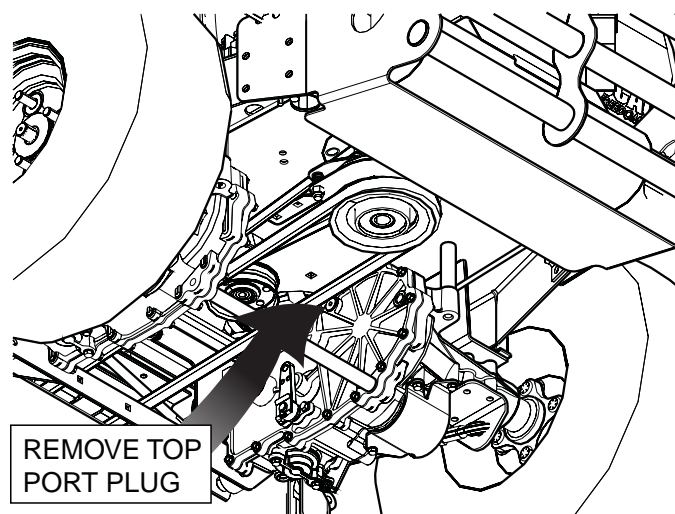

Figure 7-4 Top Port Plug Location
7. Remove the top port plug from both axles before filling with oil. (See Figure 7-4).